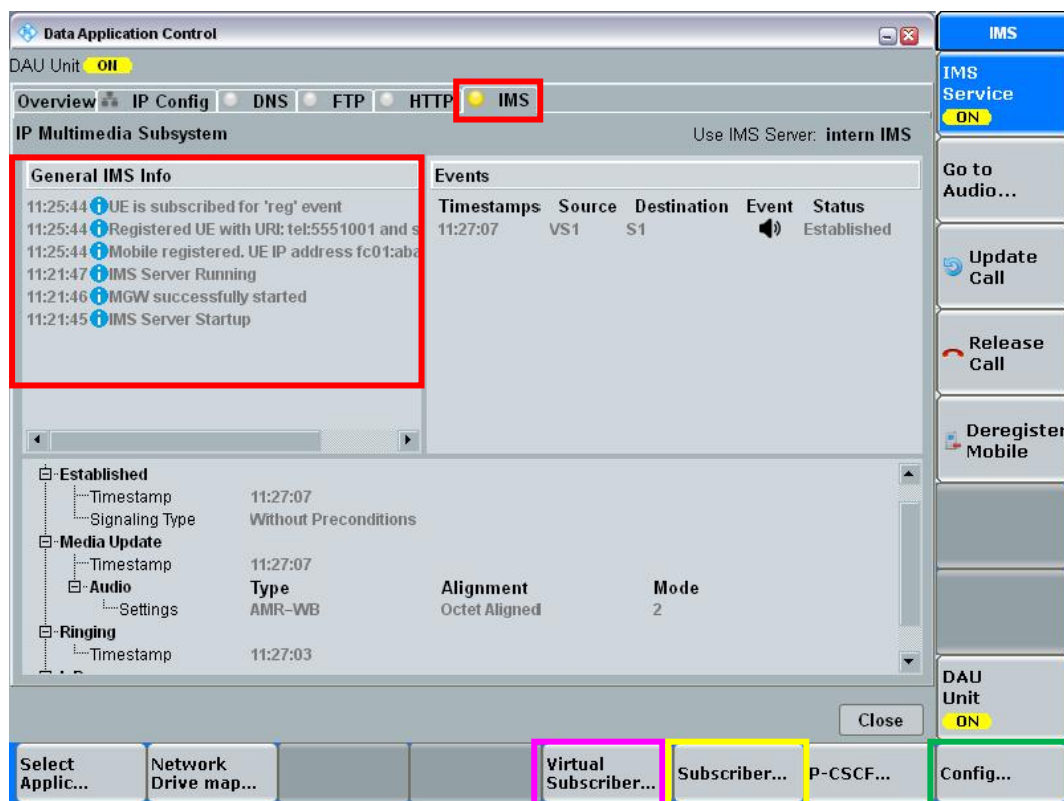

Figure 22: IMS Service
5. Select **Config...** (Figure 22, right side, lower part).
9. Select the section **Subscribers Configuration** (yellow box in Figure 22).
15. Confirm IMS server startup and phone registration in the “General IMS Info” box (Figure 22).
16. Select the section **Virtual Subscribers Configuration** (pink box in Figure 22).
20. If all settings are correct, the device under test registers at the IMS server (Figure 22).